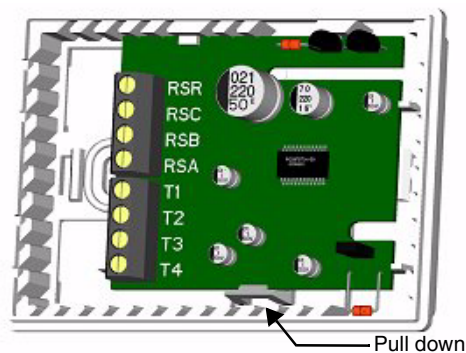

FIG. 26 Removing the circuit board
4. Remove the circuit board from the base by pulling back the latch that holds it at the bottom center, as shown in FIG. 26: